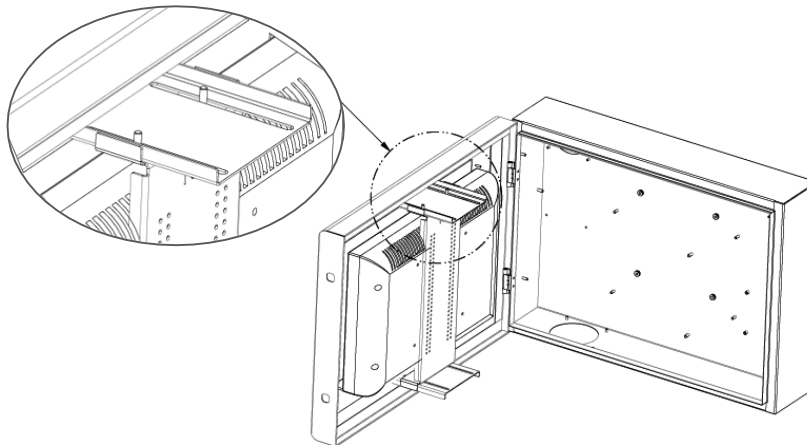

Figure6
STEP 11: To adjust the position of the screen, loosen the nylock nuts and move the display either forward or back until you achieve the correct distance (Figure6).